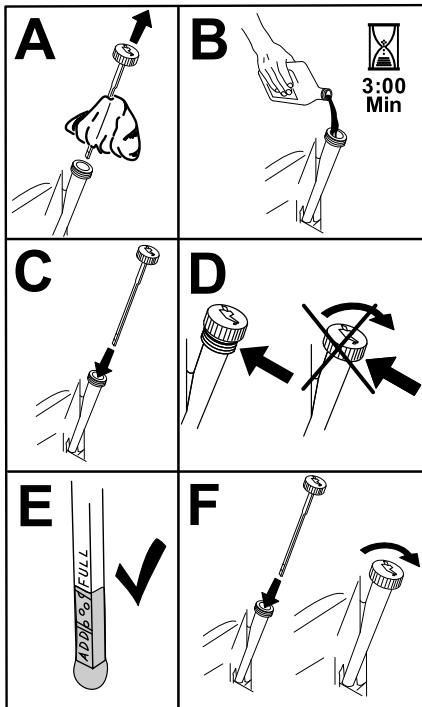

Figure 43
5. Slowly pour approximately 80% of the specified oil into the filler tube and slowly add the additional oil to bring it to the **Full** mark (Figure 43).